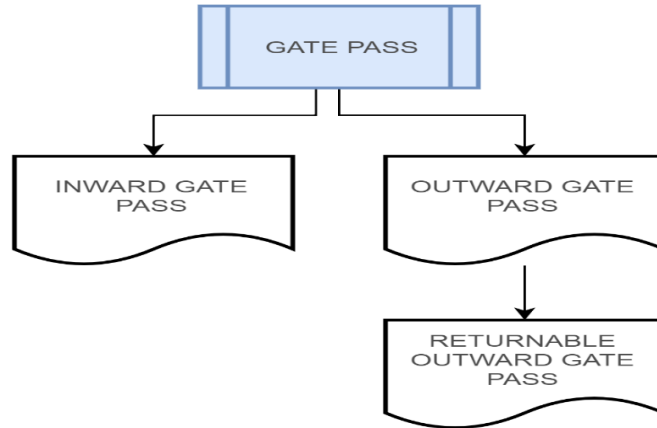

Figure 4.2
5. Then Goods Received and Inspection Note (*refer figure 4.2*) is created by the Central Store Manager and will be given to Transporter and keeps a copy in system as well. Both the quantitative and qualitative inspection will be done in this step.